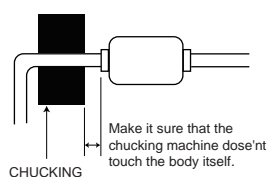

Fig.1
- 1) In case of lead forming, chuck the lead first and form by setting the body free shown in Fig.1.